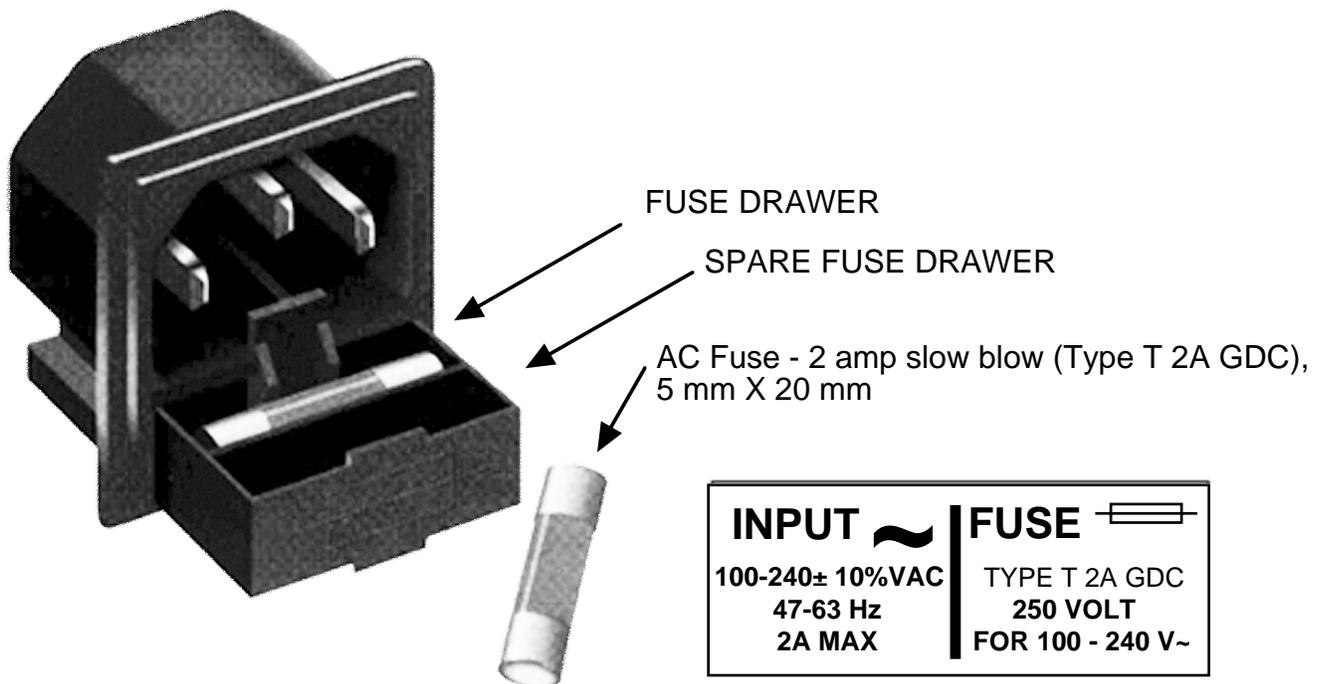

FIGURE 2.4 Fuse Location and Spare Fuse
10. AC Fuse - The fuse is a 5 mm X 20 mm, 2 amp slow blow (Type T) and is inserted in the far slot in the drawer below the AC input as shown in Figure 2.4. There is a spare fuse in the near slot. If a fuse continues to open, the power supply is most likely defective.